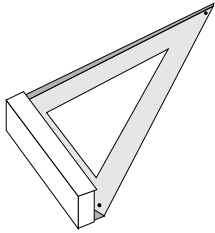

Figure 5
5. With the Phillips screwdriver, remove the option slot 0 filler. (Figure 5 illustrates an option slot filler.)